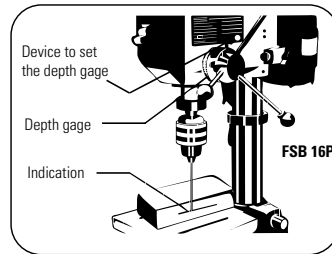

FIGURE 7.12
- Loosen the bolt/nut of the depth gage (Figure 7.12).
- The drill bit will stop at the adjusted depth level while no alteration is made on the depth gage (Fig. 7.12 and 7.13).